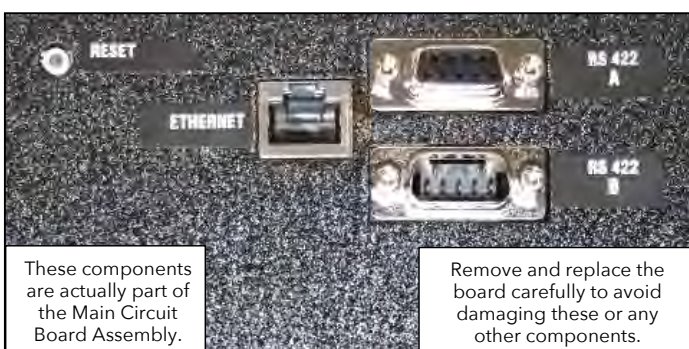

Figure 4. MAIN CIRCUIT BOARD ASSEMBLY BACK PANEL COMPONENTS.
- Both the RS422 A and B communications ports, as well as the Ethernet communications port and the Reset button, are actually all part of the Main Circuit Board Assembly. For that reason, disconnect any cables which might be connected to any of these ports. Refer to Figure 4. It is not necessary to remove either the 15-pin Alarm Relay cable or the 9-pin RS232 communications cable from the back of the unit.